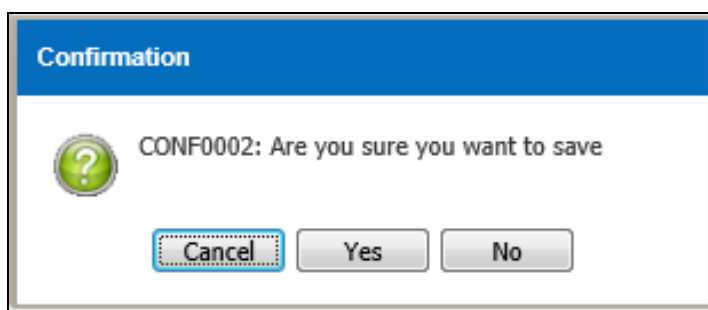

Figure 3.7.1-3 Confirmation Message
- Alert message as shown in Figure 3.7.1-3 will be displayed after user save the transaction
- Record will save when user click on the  button as shown in Figure 3.7.1-4